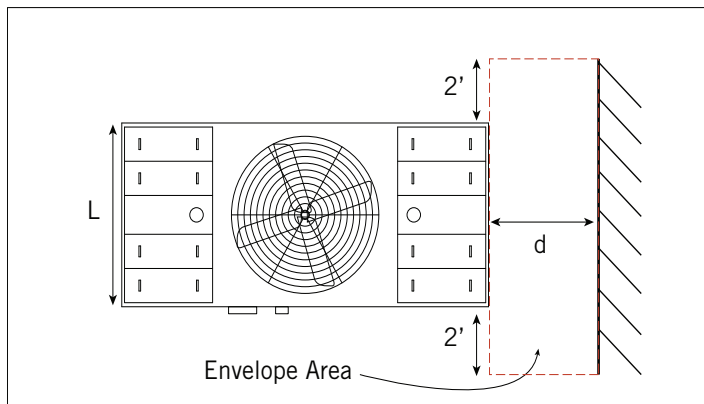

Figure 2a. Plan View of a Dual Air Intake Unit Adjacent to Wall
- 2. Air Intake Requirements:** Should it be necessary to install a unit with the air intake facing a wall, provide at least distance “d” between the air intake and the wall, as illustrated in **Figures 2a** and **2b**.
The envelope area as illustrated on **Figures 2a** and **2b** on **page J90** is $[(L + 2 + 2) * d] + [2(H+h) * d]$, where: